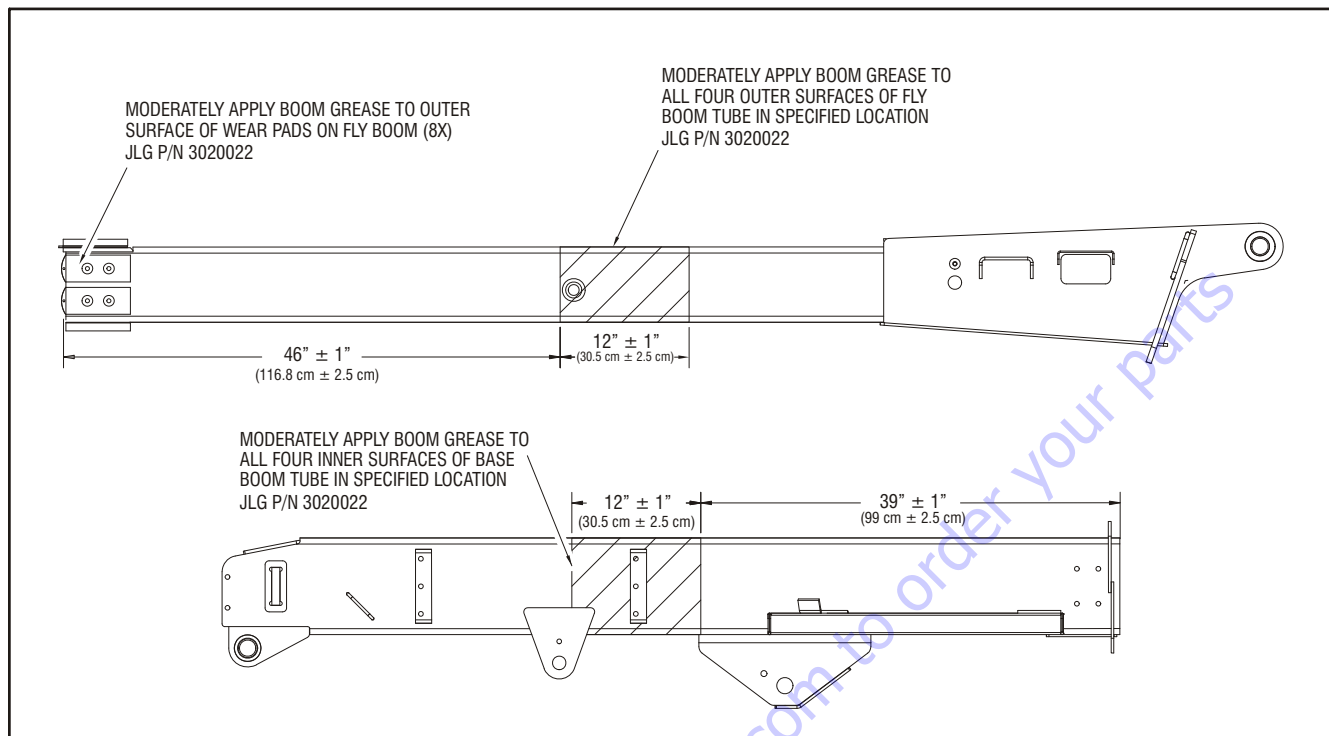

Figure 4-2. Boom Lubrication Instructions
1. Lubricate the boom sections as shown in Figure 4-2., Boom Lubrication Instructions.